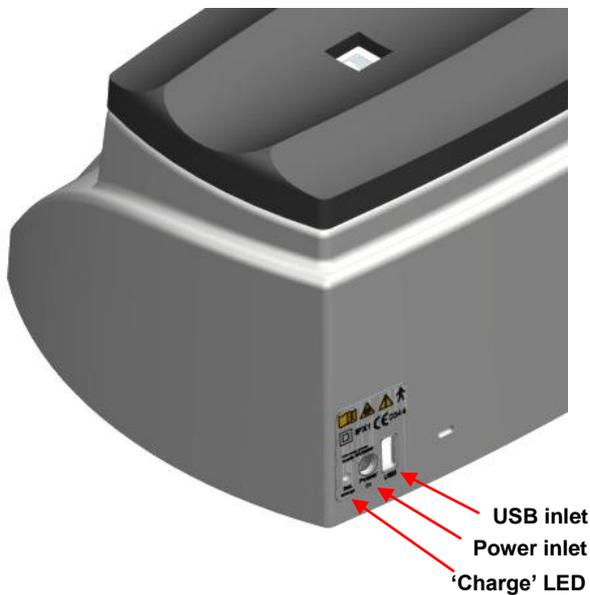

Figure 3. Diab-spot connections
3. Insert the power plug in the power inlet which is located on the rear side of the Diab-spot and is labeled as "Power in" (figure 3). A blue LED will light up when the battery is recharging.
When starting the Diab-spot for the first time it is recommended to charge the internal battery. Although the battery will not be completely empty from the factory, it is best to charge it completely. This will extend the battery life. Insert the power plug into the power inlet that is located on the rear side of the Diab-spot and is labeled as "Power in" (figure 3). A blue LED will light up when the battery is recharging.
The user has the option to backup all measurements on an USB storage device. Insert the accompanying USB storage device in the USB-inlet (figure 3), and press the 'Backup Data' button. A window to confirm that a USB storage device is inserted will appear. At the end of the backup procedure the connection with the USB Memory device is closed, and the user needs to remove the USB memory device from the Diab-spot.
The software can be updated by inserting the USB storage device with the update in the USB-inlet (figure 3) and press the 'Install software updates' button. The update process will be performed automatically. The previous version will be automatically backed-up on the internal flash drive.
To update the number of Credits, insert the USB storage device supplied by DiagnOptics containing the credit upgrade for the instrument in the USB-inlet (figure 3) and press the 'Update credits' button. The credits-update process will be performed automatically.